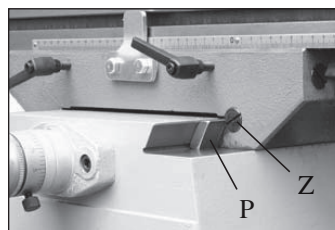

Fig. 12
The machine is equipped with gib strip Z1 (Fig.12) adjustment to compensate for wear and excess slack on cross-table.
- Adjust the gib strip by turning the gib strip screw Z (Fig.12) with a large screwdriver for excess slack. If the gib strip P (Fig.12) is too tight, loosen the gib strip screw Z (Fig.12) by turning it counter-clockwise